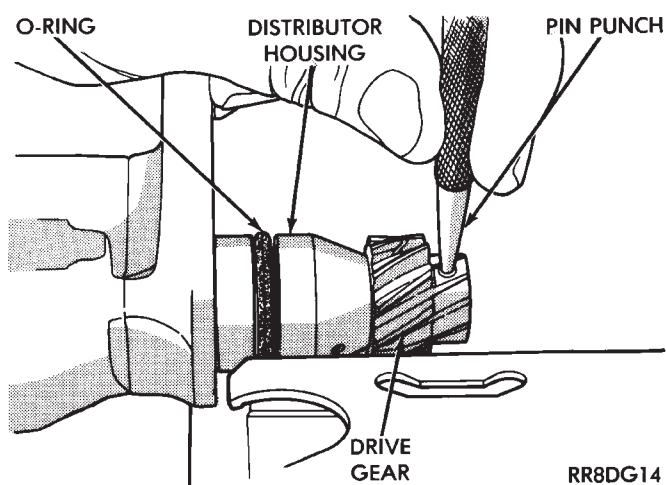

Fig. 34 Drive Gear Roll Pin
(11) With a pin punch drive out distributor drive gear roll pin (Fig. 34).